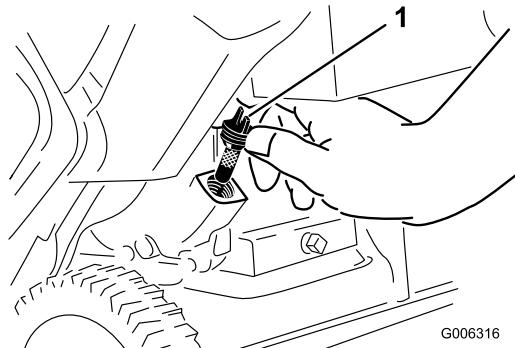

Figure 26
- Clean around the oil fill cap (Figure 26).
- Unscrew the oil fill cap and remove it (Figure 26).